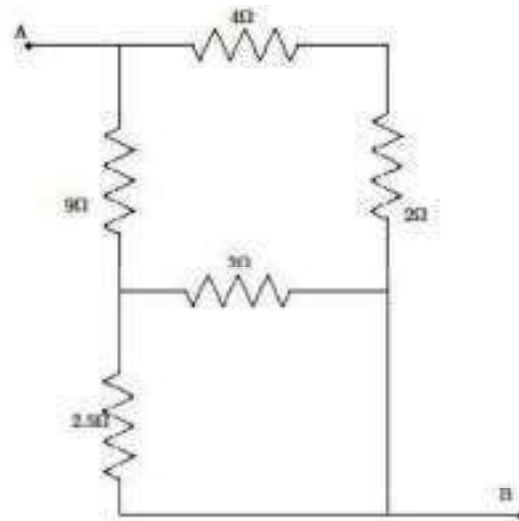

Figure 3
- (b) Using star delta transformation, find the equivalent resistance between A and B in Figure 3. (4 marks)